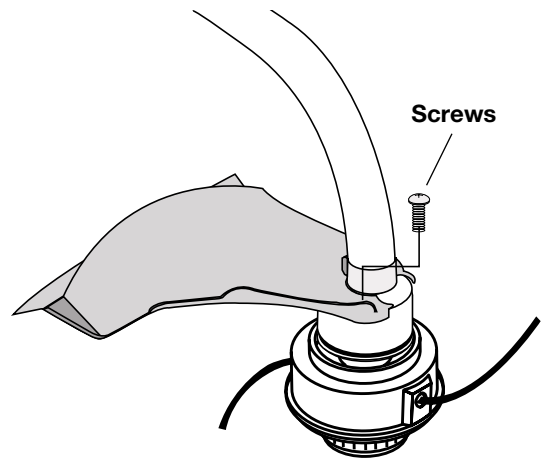

Fig. 4
3. Install the four (4) screws (10-24 x 1/2) with a regular Phillips screwdriver (Fig. 4). Tighten securely.